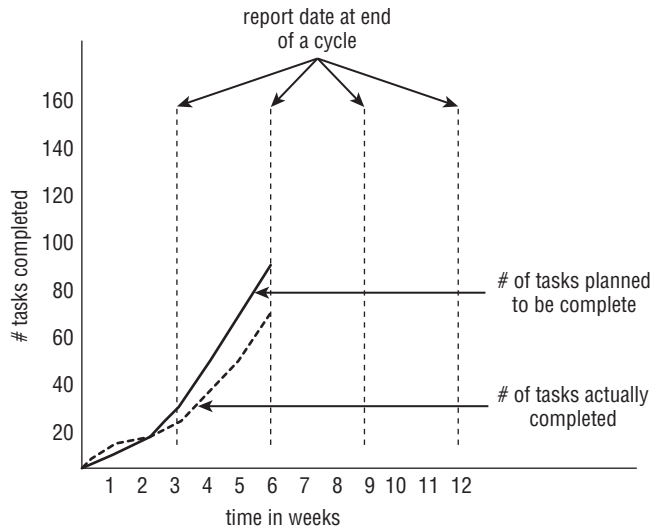

Figure 7-1: A cumulative variance graph
- The second format is a graphical representation (see Figure 7-1) of the numeric data. It might be formatted so that plan data is shown for each report period of the project, denoted with a curve of one color, and the actual data is shown for each report period of the project, denoted by a curve of a different color. The variance need not be graphed at all because it is merely the difference between the two curves at some point in time. One advantage of the graphical version of the variance report is that it shows any variance trend over the report periods of the project, whereas the numeric report generally shows data only for the current report period.
Typical variance reports are snapshots in time (the current period) of the status of an entity being tracked. Most variance reports do not include data points that report how the project reached that status. Those that show trends, as does Figure 7-1, are primitive earned value reports. These are discussed later in this chapter. Project variance reports can be used to report project as well as activity variances. For the sake of the managers who will have to read these reports, I recommend that one report format be used regardless of the variable being tracked. Your upper management will quickly become comfortable with a reporting format that is consistent across all projects or activities within a project. It will make life a bit easier for you, as the project manager, too.